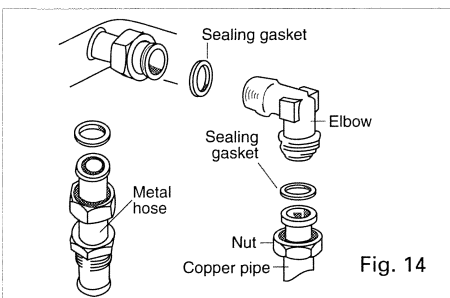

Fig. 14
- Positive connection. The hob is supplied with a copper pipe, and nut and sealing gasket (Fig.14).
-Connecting by means of a metal hose (Fig.14). Avoid this hose making contact with the moving parts of the kitchen unit into which the appliance is fitted (eg. drawers). Also avoid passing the hose through areas which are susceptible to obstruction.